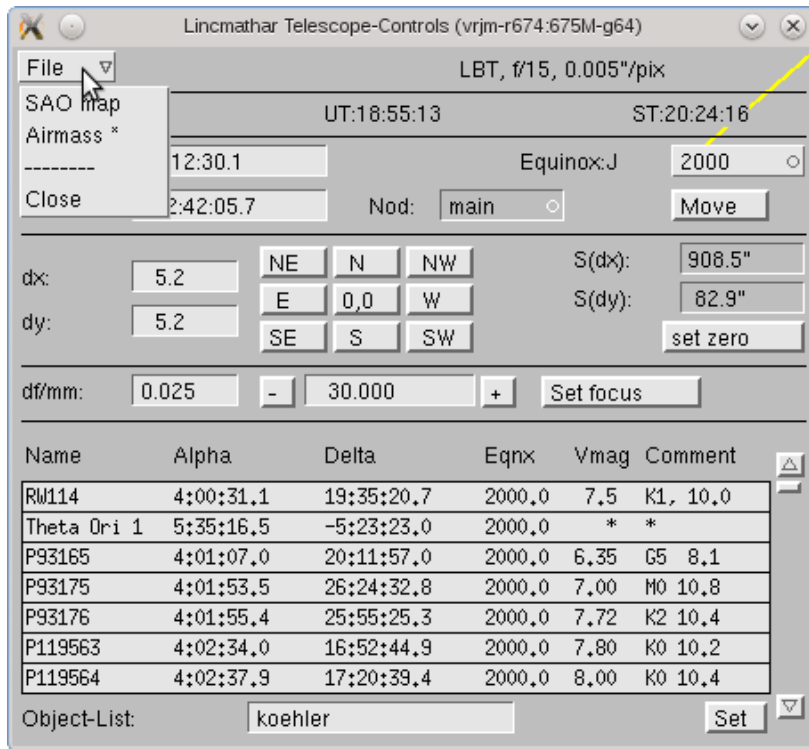
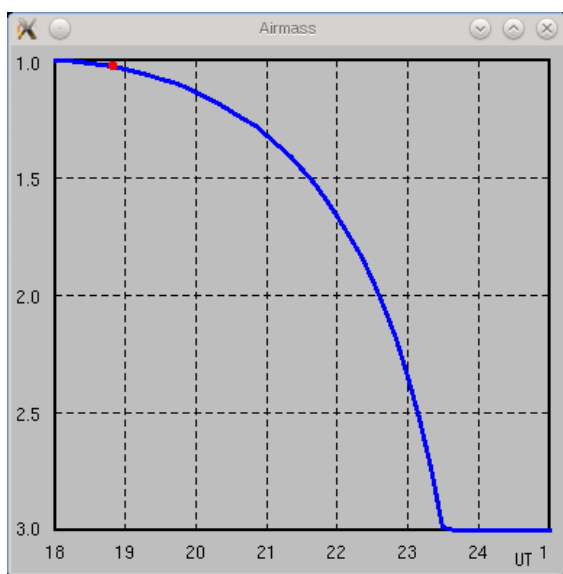

Figure 25: Telescope control window
Figure 26: Airmass over time window
- **Close:** Closes the telescope control panel of Figure 25. This window can be restarted from the modules menu on the camera control panel, Figure 6, or by the **telegui** command (Section 5.3).
*Section 4.3.5 is only relevant to PANIC, not to any other instrument.* The airmass window, Figure 26, graphically displays the airmass of the currently selected object (red dot), as well as a tracing of the airmass over several hours of time (blue line). The number of hours depends on the width of the window. This feature is particularly useful when used in conjunction with object files. This feature is only useful when used in conjunction with object files or in simulation, because GEIRS has no information on the actual telescope pointing for this instrument. Objects selected and set from an object file will show their current airmass in the airmass window. The airmass plot will automatically reset to the current telescope position whenever the GUI queries the telescope computer for the current position (for example, when a read command is finished). The airmass window can be turned off by reselecting the **Airmass** option in the file menu of the telescope control panel, Figure 25. Using the **quit** option in the `xwindows` menu will also close the telescope control panel!
*Section 4.6 has only some marginal importance for PANIC, not for any other instrument.* An observer's private object list in the following format is supported for use in Figure 25: